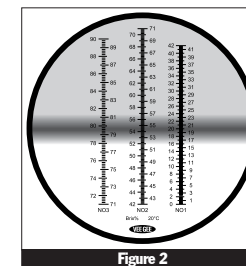

Figure 2
- 6 In the field of view, the boundary line may appear colored and/or blurry (Figures 2 & 3). If this is the case, turn the dispersion dial until the coloring and/or blurriness is replaced by sharp contrast.